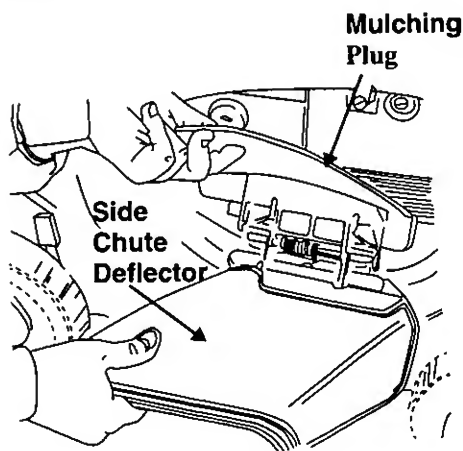

Figure 6.
- To convert your mower from a mulcher to a side discharge mower, lift the mulching plug. Slide the two hooks on the side discharge deflector under the hinge pin on the mulching plug assembly. Lower the mulching plug. See figure 6.